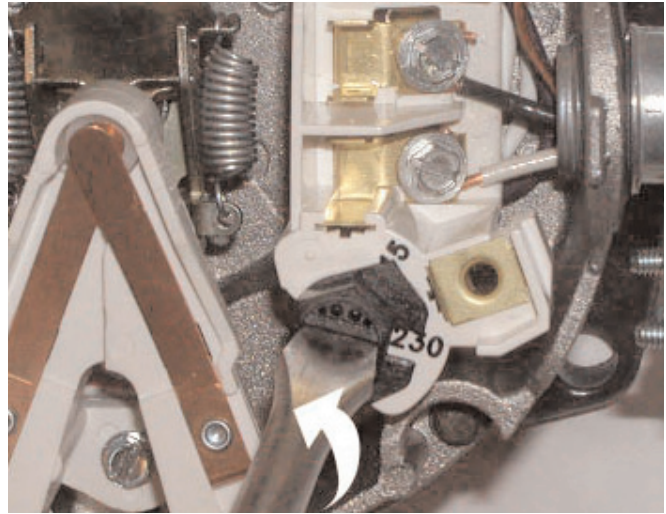

Figure 8 – Changing the Voltage Setting
7. Connect current carrying conductors to terminals L1 and L2 under motor canopy. When replacing motor, check wiring diagram on motor nameplate against Figure 8, Page 6. If the motor wiring diagram does not match either diagram in Figure 8, follow the diagram on the motor.
**IMPORTANT:** 115/230 Volt single phase models are shipped from factory with motor wired for 230 volts. If power supply is 115 volts, remove motor canopy and reconnect motor as shown in Figure 8. Do not try to run motor as received on 115 volt current.